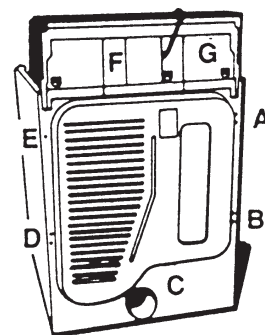

Fig. 4-41
5. Starting with screw (A), remove in order screws (A), (B), (C), (D), (E), (F), and (G) from back of dryer. (Fig. 4-41)